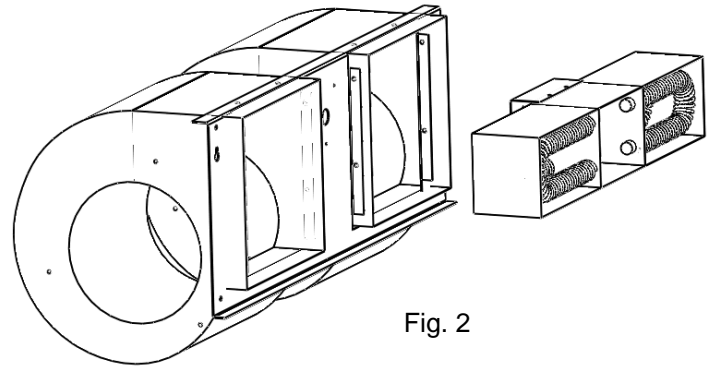

Fig. 2
5. Remove the black hole covering and attach the heater assembly to the blowers using three screws. (Fig. 2&3) Ensure that the heat kit is securely fastened.